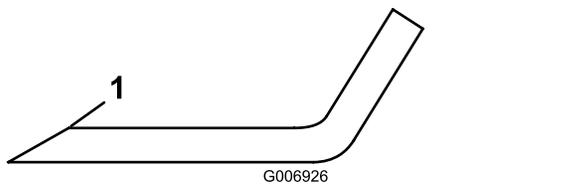

Figure 69
- Inspect the cutting edges of all the blades, sharpen the cutting edges if they are dull or nicked, sharpen only the top of the cutting edge, and maintain the original cutting angle to ensure sharpness (Figure 69).